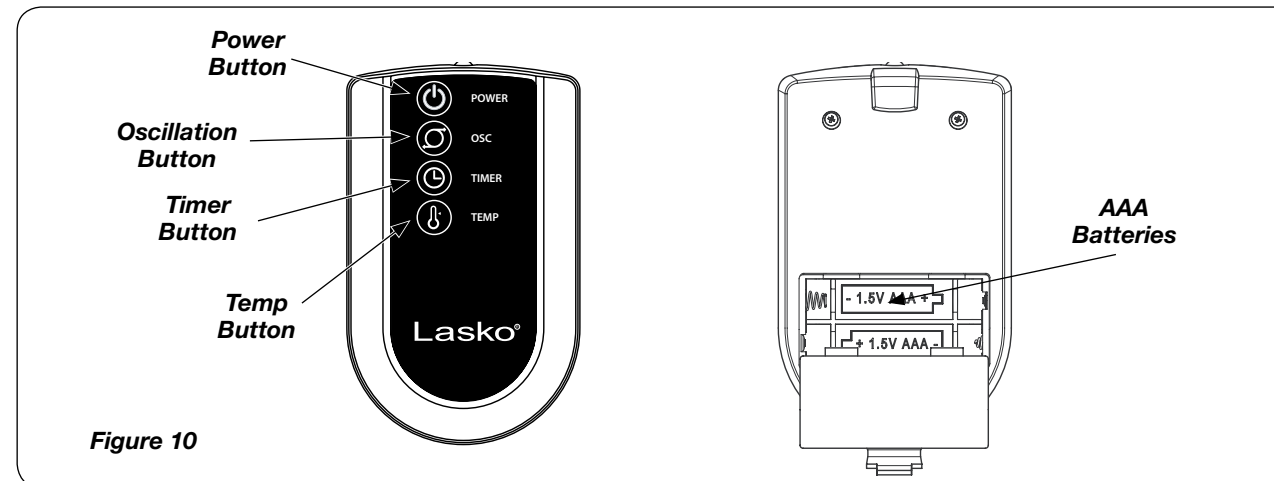

Figure 10
1. Install batteries as shown in Figure 10. The battery is type “AAA” included.